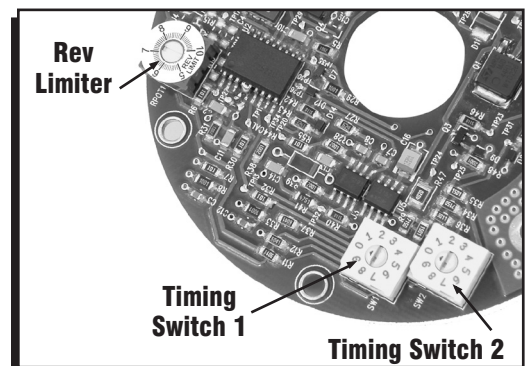

Figure 1 Rotary Dial Adjustments.
This distributor is equipped with an adjustable rev limiter. It is adjustable from 5,000 - 10,000 rpm by a rotary dial under the cap and rotor (Figure 1). The rpm will not exceed your selected amount to protect the engine from overrev damage.
**Electronic Advance Curve Operation:** The Electronic Advance Curve is managed by a microprocessor built into the ignition module. You can program an electronic timing advance curve by adjusting two rotary switches under the distributor cap (Figure 1). A magnetic pickup is used as a trigger device that tells the ignition module when to fire the coil. The pickup is triggered by a reluctor mounted to the distributor shaft. This means that you have to set the distributor at the highest, or Total, amount of advance that you want to achieve (including vacuum advance) and compensate with one of the selectable ignition curves (shown on page 4). Following are important definitions that will be used to set up your timing.